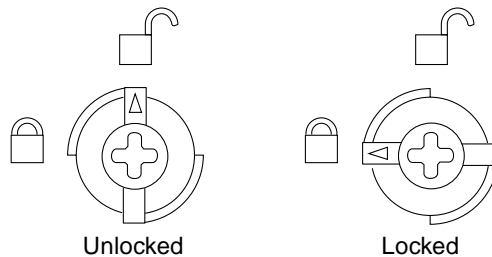
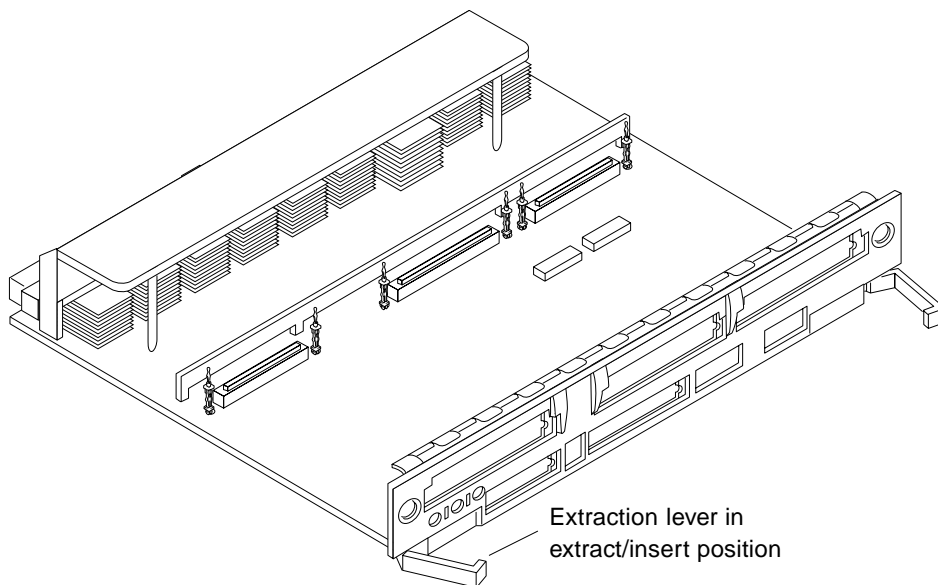

FIGURE 4-7 Unlocking and Locking Quarter-Turn Access Slots
FIGURE 4-8 Extraction Lever in Extract Position
Insert the screwdriver into each quarter-turn access slot (the slots are located on the left and right sides of the board front panel) and then turn a quarter turn so that the arrow points to the unlocked position (FIGURE 4-7).
4. Pull the ends of both extraction levers outward simultaneously to unseat the board centerplane connector from the centerplane receptacles (FIGURE 4-8).
3. **Pull the ends of both extraction levers outward simultaneously to unseat the board from the centerplane receptacles (FIGURE 4-8).**
The board will not seat fully unless the levers are in this starting position and the access slots are unlocked. See FIGURE 4-7, and FIGURE 4-8 on page 4-12.
- 4. Mechanically lock the board to the system chassis by inserting a Phillips No. 1 screwdriver into each quarter-turn access slot and then turning to the locked position (FIGURE 4-7).**